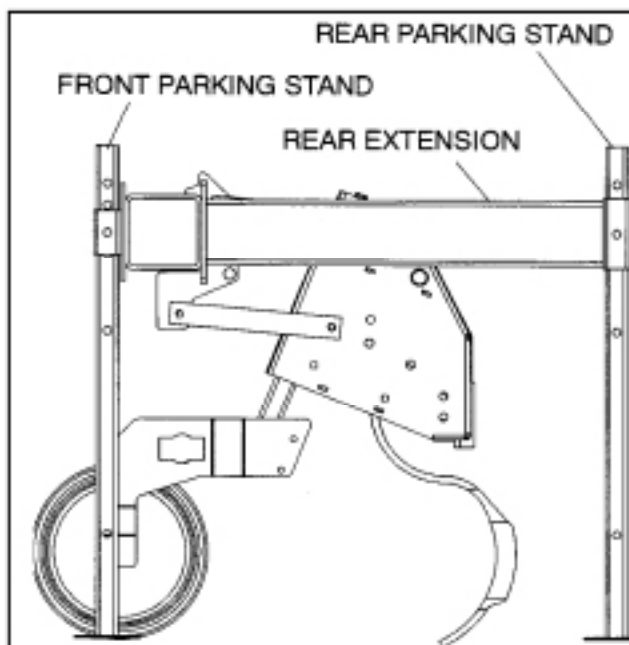

Figure 13 Front & Rear Parking Stands (type F toolbar)
1. Lower front parking stands to the ground and pin in position so that parking stands will be vertical when the tractor is removed. See Figure 13.
1. Lower rear parking stands (folding cultivators without lift assist) to the ground and pin in position so that parking stands will be vertical when tractor is removed. Front and rear stands should be pinned in the same hole position as shown in Figure 13.